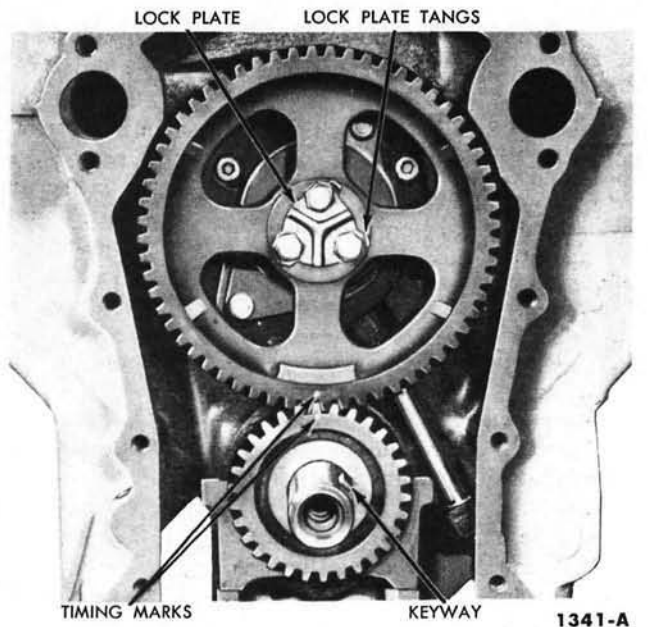
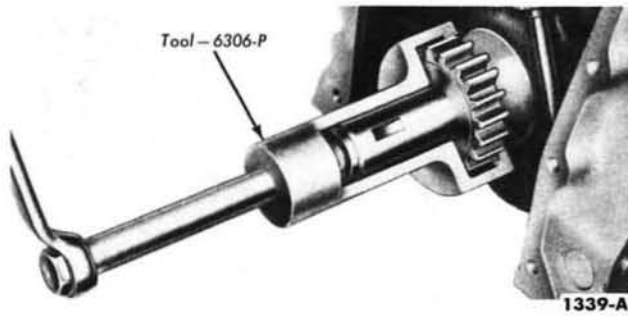
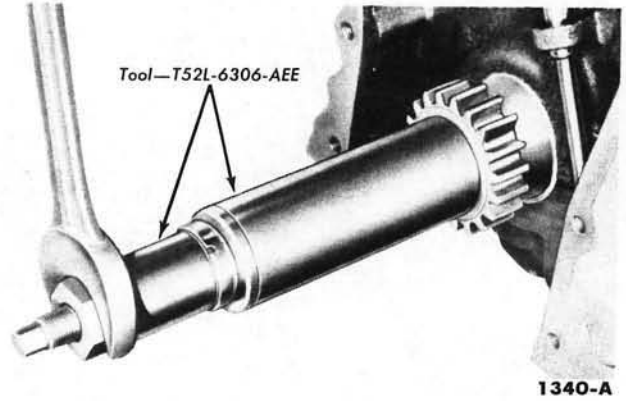

FIG. 39—Timing Gear Alignment—302 or 332 Engine
FIG. 40—Crankshaft Gear Removal—302 or 332 Engine
FIG. 44—Crankshaft Gear Installation—302 or 332 Engine
On a 302 and 332 engine, crank the engine until the timing marks on the gears are aligned as shown in Fig. 39. Remove the three capscrews and the lock plate securing the camshaft gear to the camshaft and remove the gear. Remove the crankshaft gear as shown in Fig. 40.
3. On a 302 or 332 engine, install the crankshaft gear (Fig. 44) and the camshaft gear with the timing marks aligned (Fig. 39). Install a new lock plate and install the three capscrews. Tighten the capscrews to 15-18 foot-pounds torque. Bend the tangs on the lock plate over the retaining screws. Install the crankshaft front oil slinger.
3. Install the camshaft timing gear, lock plate, and retaining bolts (Fig. 39).